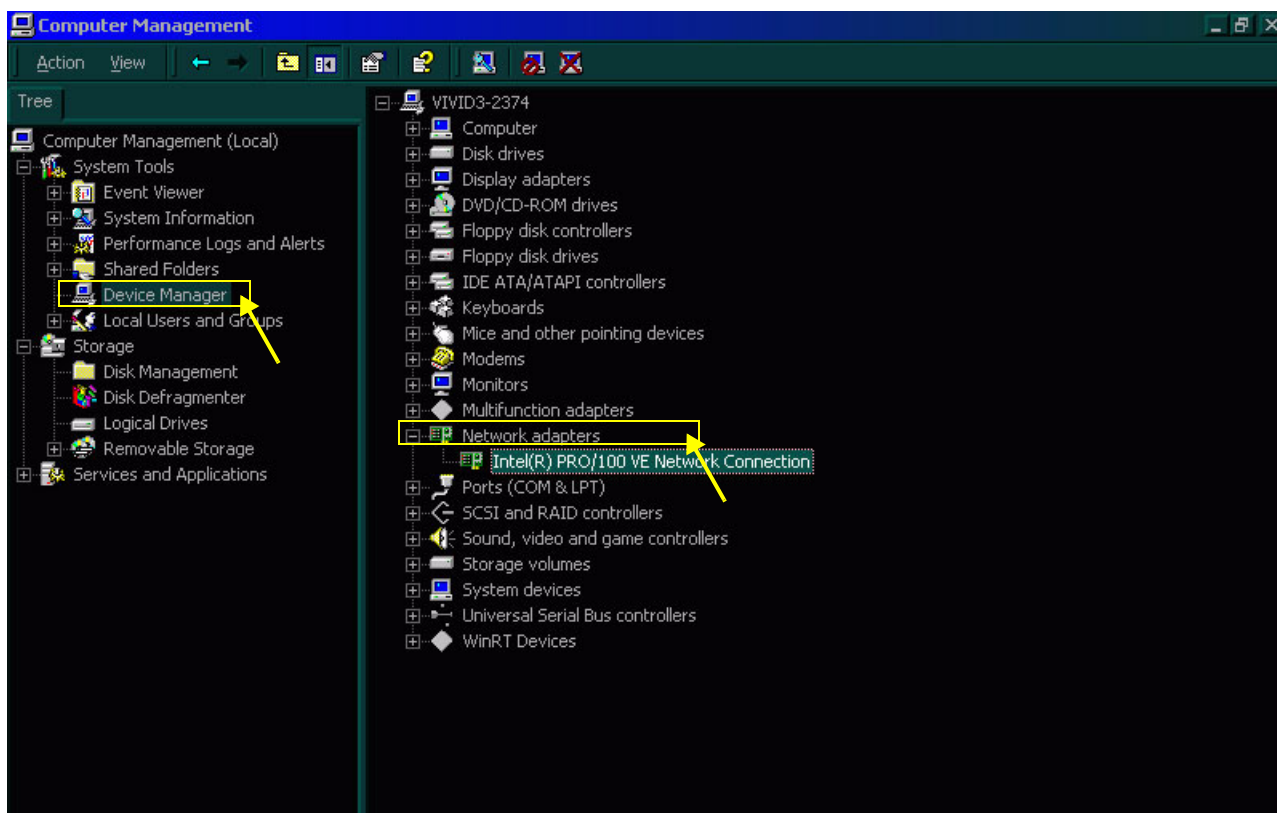

Figure 7-58 Checking the Network Adaptors
- 3.) Make sure that the **Intel(R) PRO/100VE Network Connection** is indicated as shown in Figure 7-58, above.